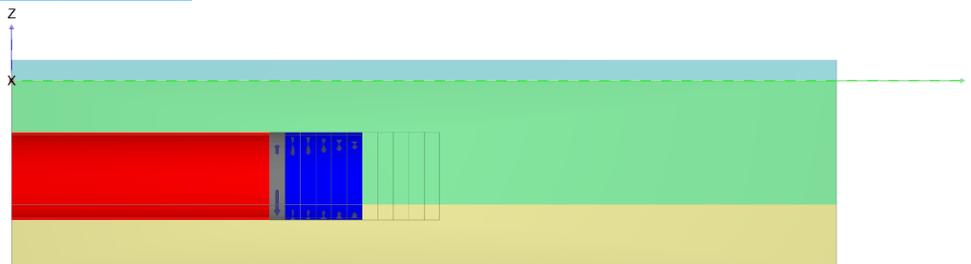

Figure 88: Selection of soil volumes (0 m - 25 m)
4. In the drawing area select the soil volumes corresponding to the lining in the first 25 m (Figure 88: Selection of soil volumes \(0 m - 25 m\) (on page 109))